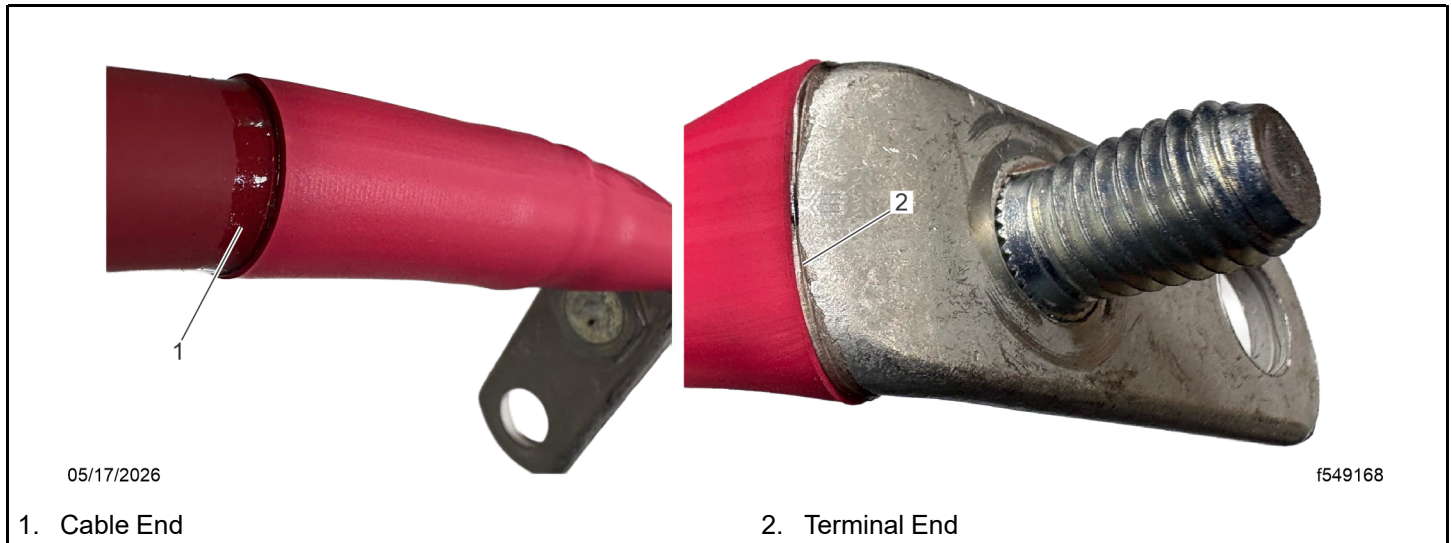

Fig 91, Continuous Adhesive Seal at Cable and Terminal Ends
- Confirm a continuous ring of adhesive can be seen around the circumference of the sleeve at both ends. See Fig. Fig. 91.